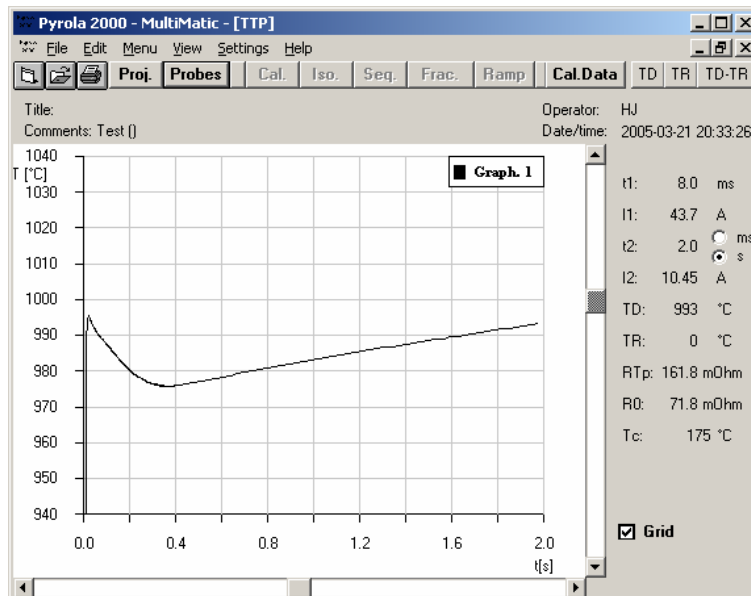
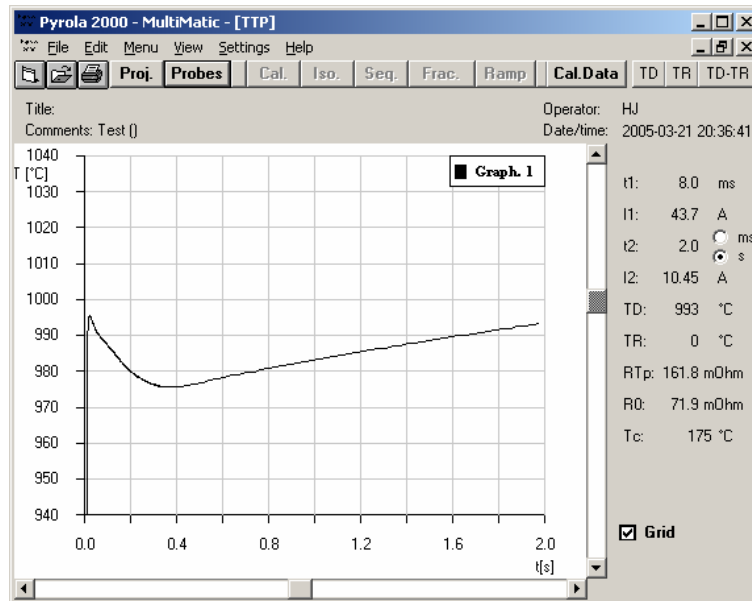

Figure I-4. The TTP after the third pyrolysis gives an acceptable result. Note the changed scaling on the y-axis.
Figure I-5. Repeating the pyrolysis gives the same result, compare with Figure I-4.
8. Decreasing both I1 and I2 gives an acceptable TTP, see Figure I-4.
9. For reliable pyrolysis results the TTP has to be repeatable as well as “ideal”. Therefore re-run the pyrolysis with the same parameters and compare the results. The result of the repeated test for this example is shown in Figure I-5. The results are very close compared to those in Figure I-4 and thus the repeatability is good.